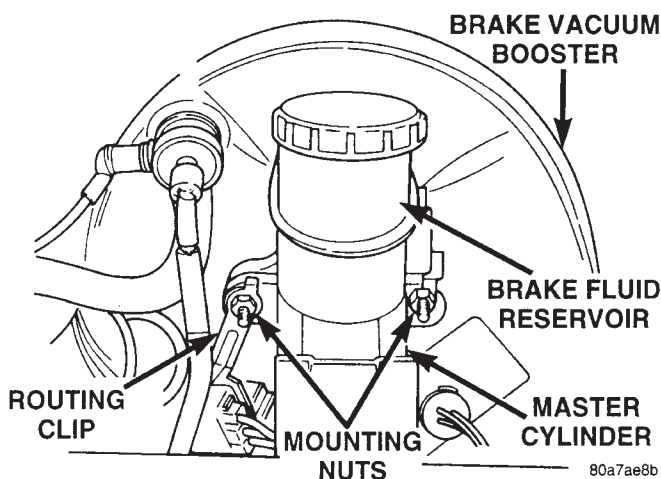
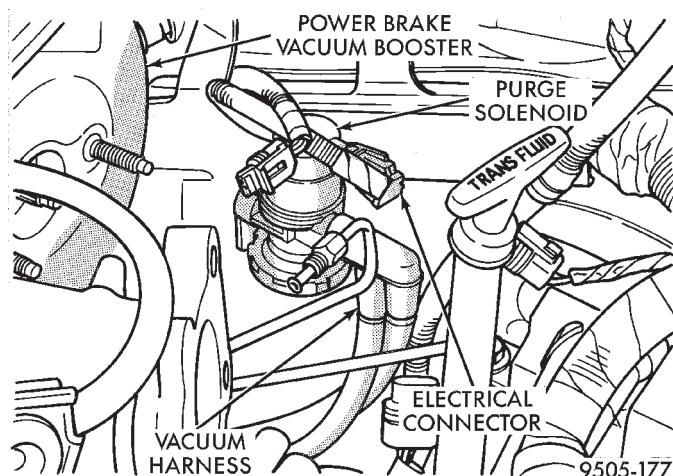
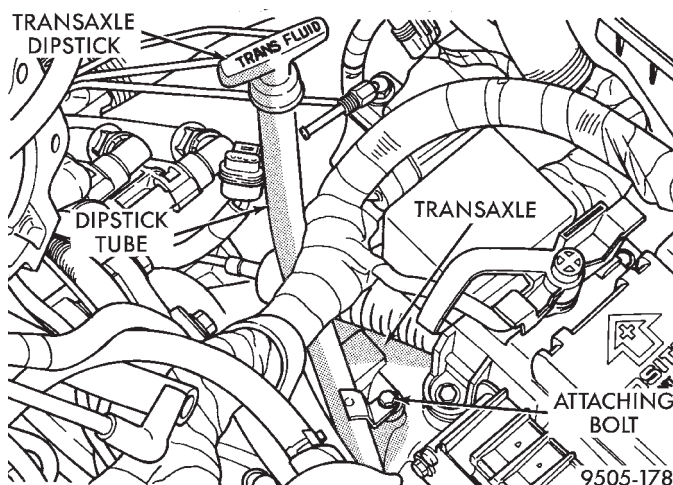
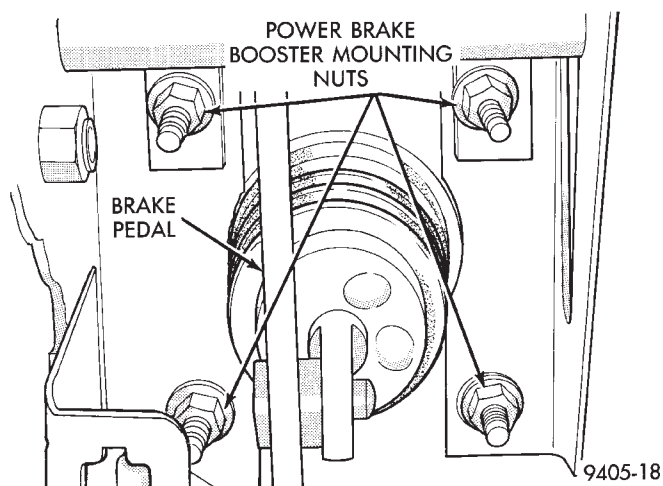

**Fig. 110 Master Cylinder Mounting To Vacuum Booster**
**Fig. 111 Purge Control Solenoid**
**Fig. 112 Transaxle Dipstick Tube**
**Fig. 114 Vacuum Booster Mounting**
(10) Remove the 2 nuts (Fig. 110) attaching the master cylinder assembly to the power brake vacuum booster.
(11) Remove the routing clip and chassis brake tubes (Fig. 110) (as an assembly) from the
(12) mounting stud for the master cylinder.
(13) Remove the master cylinder from the vacuum booster.
(14) Remove the vacuum harness connector and electrical connector from the purge solenoid (Fig. 111). Remove bracket and purge solenoid as an assembly from the vehicle.
(15) Remove dipstick tube attaching bolt (Fig. 112). Then remove the dipstick tube and dipstick (Fig. 112) as an assembly from the transaxle.
(18) Remove the 4 nuts attaching the vacuum booster to the dash panel. Nuts are accessible from under dash panel in area of the steering column and pedal bracket assembly (Fig. 114).
- (1) Position power brake booster onto dash panel.
- (2) Install and torque the 4 power brake vacuum booster mounting nuts (Fig. 114) to 37 N·m (27 ft. lbs.) torque.
- (3) Using lubriplate, or an equivalent, coat the surfaces of the brake pedal pin that contact the power brake vacuum booster input rod.
- (4) Connect power brake vacuum booster input rod to brake pedal pin and install a **NEW** retaining clip. **Use only a new retainer clip DO NOT USE the old clip.**
- (5) Install the dipstick tube in transaxle (Fig. 112). Install dipstick tube attaching bolt and securely tighten (Fig. 112).
- (6) Install the vacuum hoses on the check valve in the power brake vacuum booster.
- (7) Position purge control solenoid (Fig. 111) on left front strut tower and install and securely tighten attaching bolt. Then correctly route and install the vacuum harness connector and electrical connector (Fig. 111) on the purge control solenoid.
- (8) Position master cylinder on vacuum booster, aligning push rod on vacuum booster with the piston of the master cylinder.
(9) Install the routing clip and chassis brake tubes on the inboard mounting stud for the master cylinder.
(10) Install the 2 master cylinder to power brake unit mounting nuts (Fig. 110). Tighten the 2 mounting nuts to a torque of 28 N·m (250 in. lbs.).